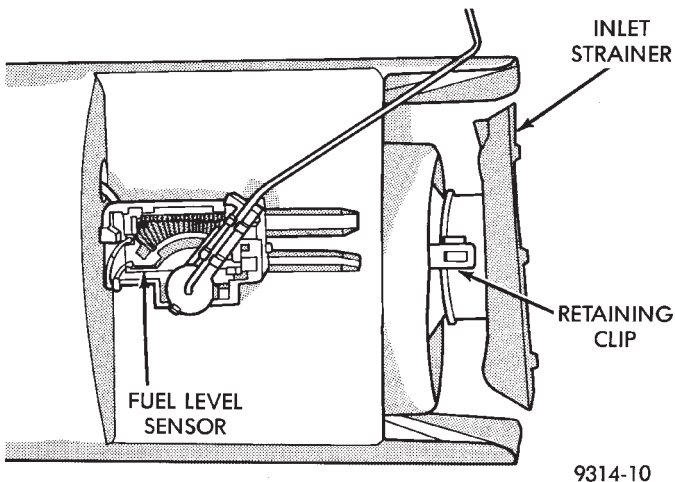

Fig. 13 Inlet Strainer Removal
- (1) Remove fuel pump module. Refer to Fuel Pump Module Removal in this section.
- (2) Using a thin straight blade screwdriver, pry back the locking tabs on fuel pump reservoir and remove the strainer (Fig. 13).
- (3) Remove strainer O-ring from the fuel pump reservoir body.
- (4) Remove any contaminants in the fuel tank by washing the inside of the fuel tank.